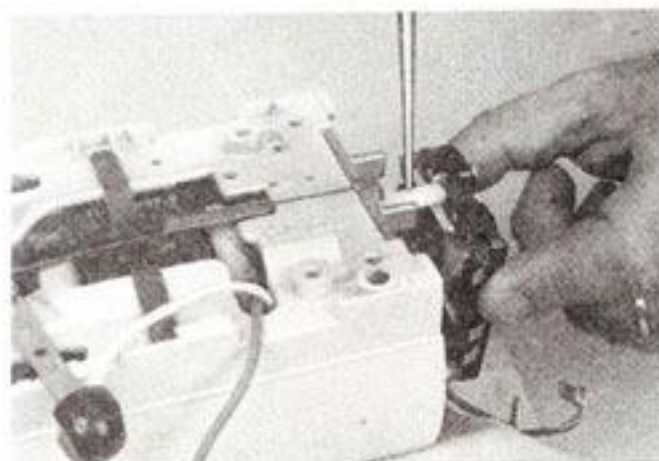

Fig. 50
- O. Place the control plate on the bearing with adjusting screws at the top (Fig. 50). Turn in the screws until about 3/8" of the screw remains. Have both screws turned in evenly so the opposite end of the control plate rests squarely on the extensions on the bearing bracket.